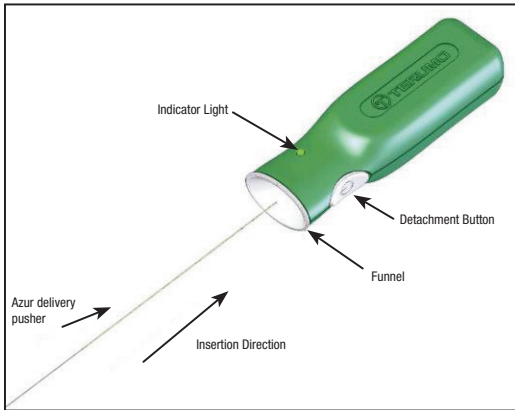

Figure 2 – Azur Detachment Controller
13. Prior to using the device, remove the proximal end of the delivery pusher from the packaging hoop. Use care to avoid contaminating this end of the delivery pusher with foreign substances such as blood or contrast. Firmly insert the proximal end of the delivery pusher into the funnel section of the AZUR Detachment Controller. See Figure 2. Do not push the detachment button at this time.